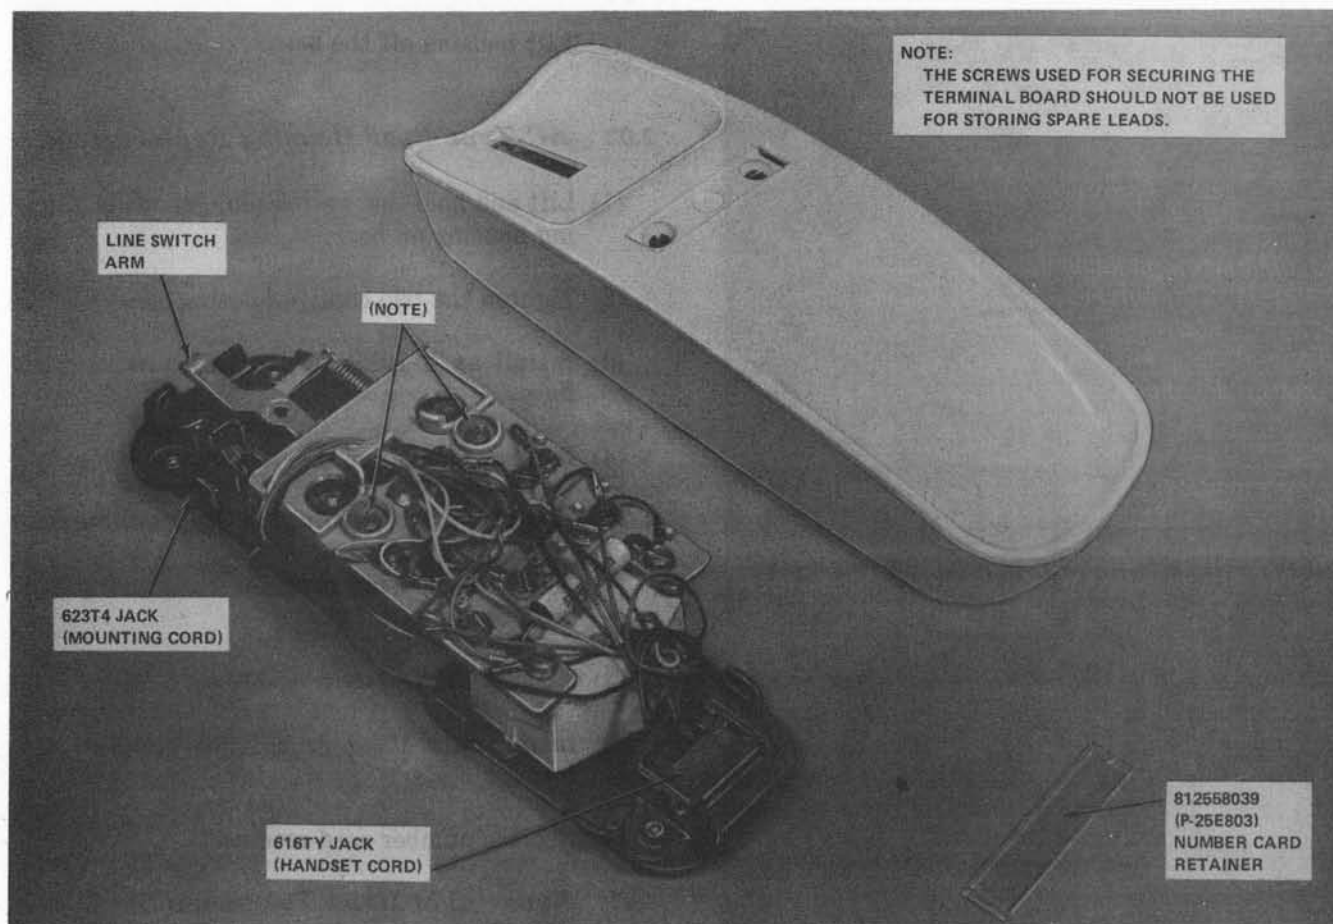

Fig. 12—Interior View of AD3 (Except AD3H) Telephone Base
- AD1 (MD) and AD1M (MD) (desk type)—jack equipped to receive (maxi) plug-ended handset and mounting cords
- AD3 and AD3M (desk type)—jack equipped to receive (mini) plug-ended handset and mounting cords (Fig. 12)